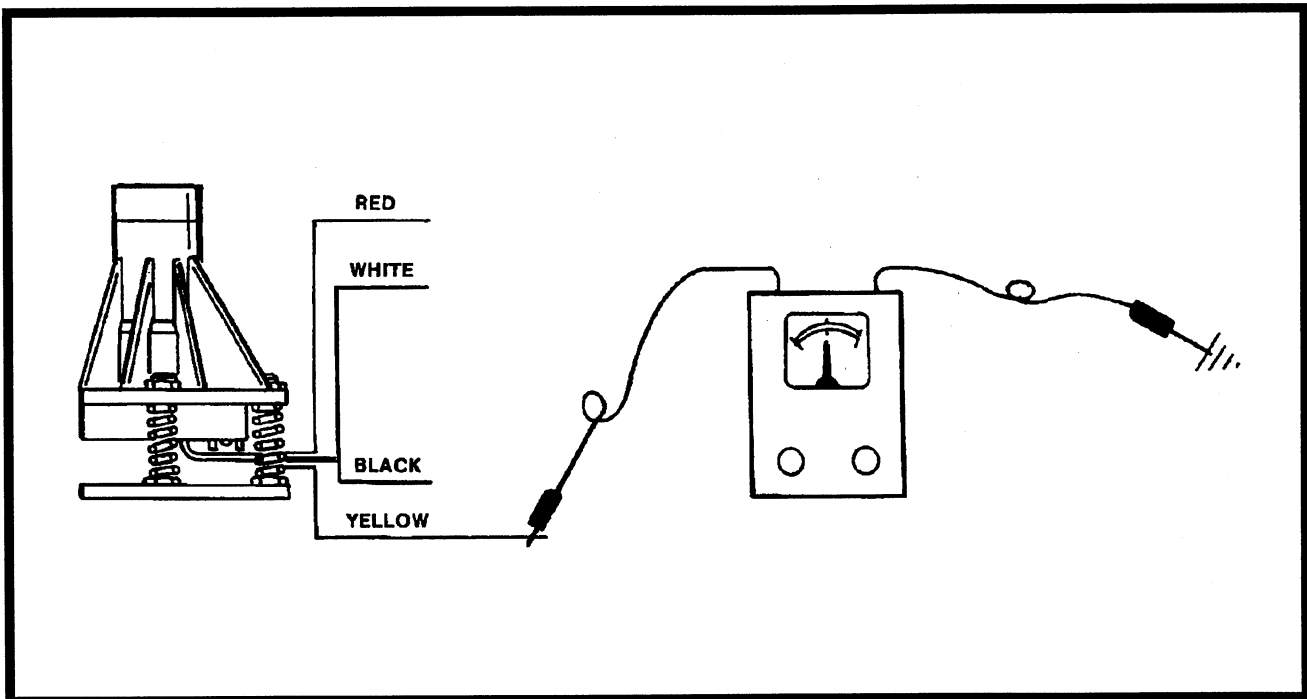

Figure 8-3. Tilt Alarm Switch Leveling - Voltmeter Adjustment.
- (2). Level the base of the indicator by tightening the three flange nuts. Tighten each nut through approximately one half of it's spring's travel. **DO NOT ADJUST THE "X" NUT DURING THE REMAINDER OF THE PROCEDURE.**
- (3). With the electrical connections complete, slowly tighten one of the "Y" nuts until the circuit is closed and the light on the Platform Control Console illuminates.
- (4). Slowly back off the nut, counting the number of turns, until the circuit is again closed and the light again illuminates.
- (5). Divide the number of turns determined in step (4) in half. Tighten the nut this many turns. The line determined by this nut and the "X" nut is now parallel to the ground.
- (6). Repeat steps (3) through (5) for the remaining "Y" nut. The switch is now level.
- (7). Individually push down on one corner at a time; there should be enough travel to cause the switch to trip. If the switch does not trip in all three tests, the flange nuts have been tightened too far. Loosen the "X" nut and repeat steps (3) through (7).
b. Voltmeter Adjustment. (See Figure 8-3.)
- (1). Park machine on a flat, level surface and ensure machine is level.
- (2). If motor is not running, turn ignition switch to ON.
- (3). Connect black lead of voltmeter to ground and red lead to yellow wire protruding from pot on bottom of sensor.
- (4). Adjust leveling nuts to obtain the highest possible voltage reading.
- (5). Check voltage at trip point in all four directions. If voltage reading is not symmetrical, repeat step (4) above.